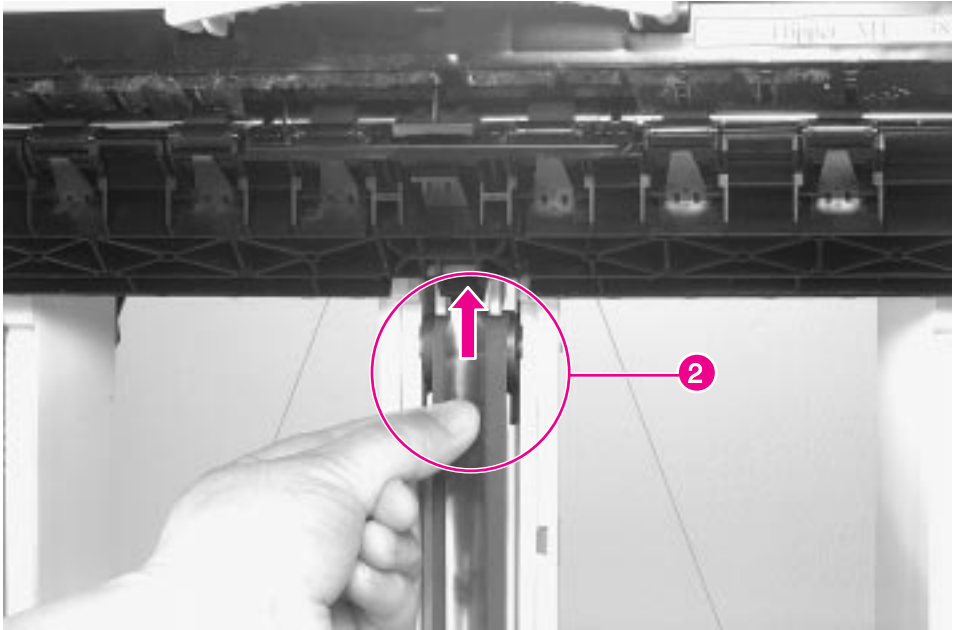

Figure 6-69 Mailbox with Stapler, Metallic Tape Release
- 4 Carefully rewind the tape into its housing. Do not allow the tape to freely snap back into the housing (see figure 6-69, callout 2).